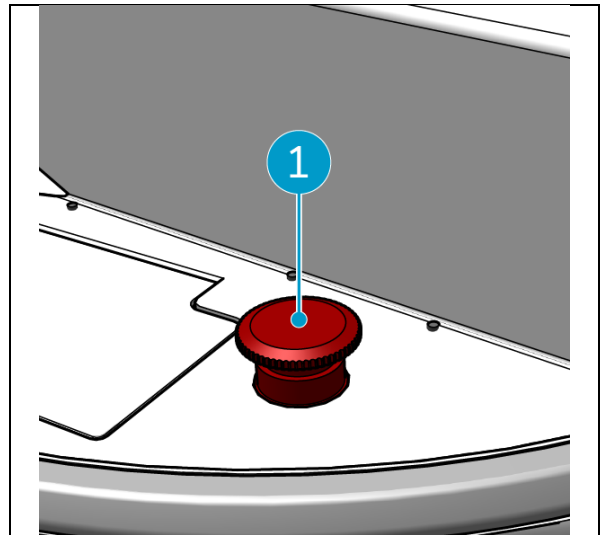

Figure 42
1. In case of emergencies, press the emergency stop button on the main unit of the i-walk (Figure 42, pos. 1). The i-walk will stop and the light bar will flash red.